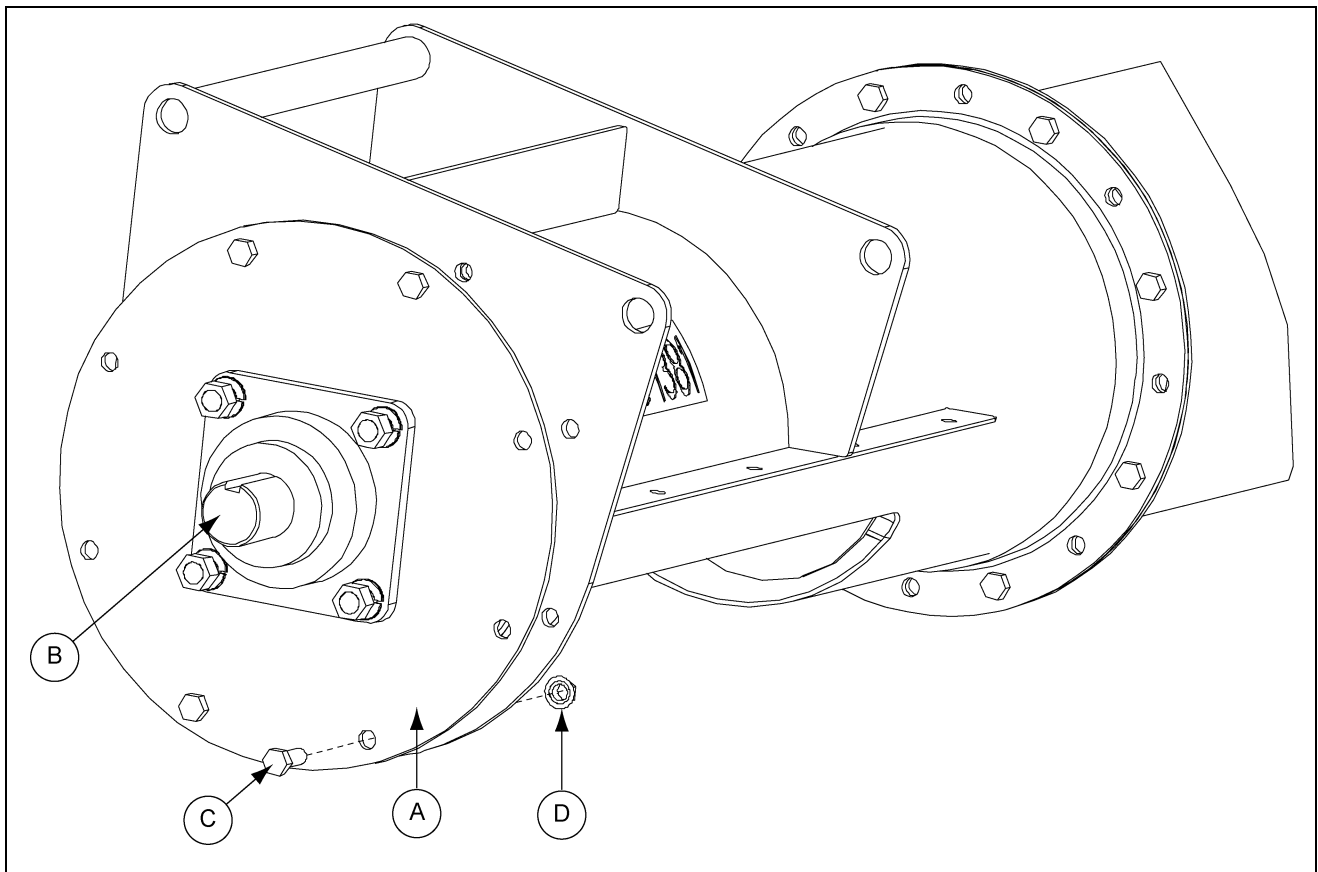

Figure 4M
3. Only secure with UPPER and LOWER four (4) bolts (C). *(See Figure 4M.)* The other four (4) bolts (C) will be installed later with the belt guard mounting brackets.